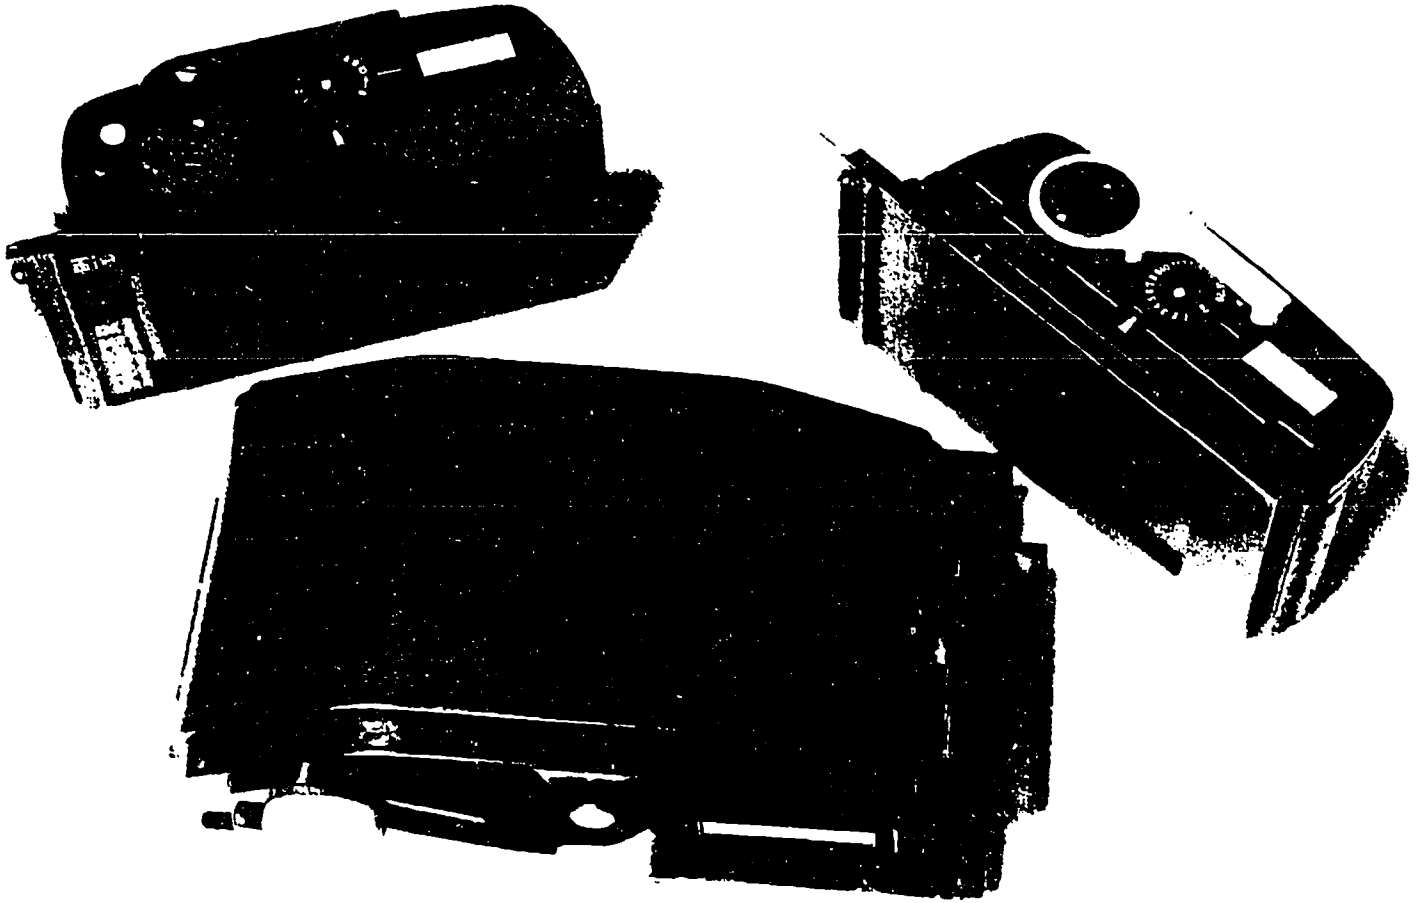

Figure 2-5. Roll film holders.
**Roll Film Holders.** Some Air Force cameras are designed primarily for using sheet film, but special holders are available to adapt such cameras to handle roll film. Other cameras are designed specifically for roll film with built-in or detachable film holders. In either case you will have to load the roll film holder. Typical roll film holders are shown in figure 2-5.